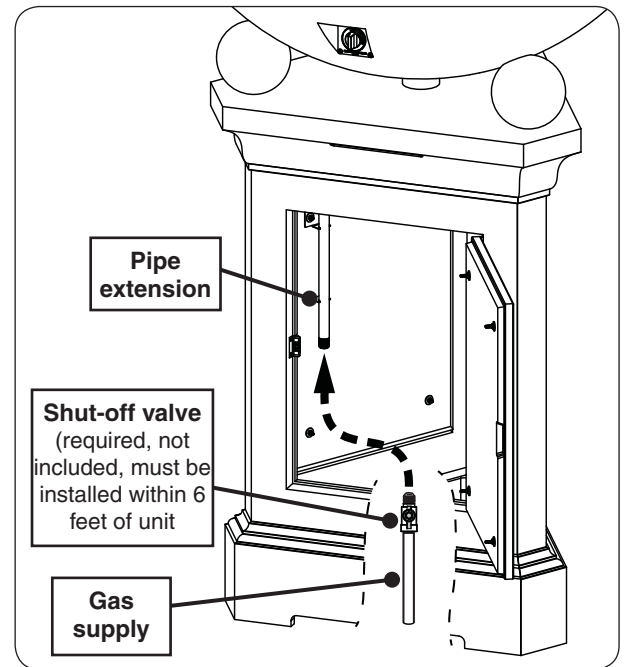

Fig. 31-1 Connecting to a gas line
2. Plumb the gas supply to the 1/2" pipe extension (that is mounted to the interior wall of the pedestal). See Fig. 31-1.